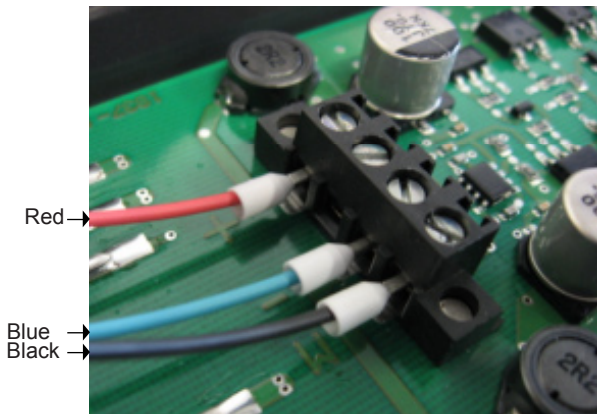
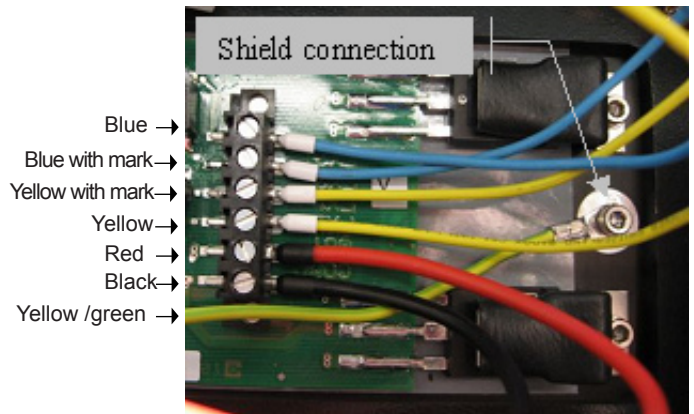

Figure 7: connector X1
Figure 8: connector X2 and shield connection
The heatsink and the measuring head are internally connected to the ground terminal (threaded stud) which is accessible on the heatsink side (see fig. 8); it should be connected to the ITL 4000-S local ground.
- Remove the three leads on connector X1 (fig. 7), the six leads on connector X2 (fig. 8) and the shield connection to the heatsink (fig. 8).
- Connect the new electronics module (colors as in fig. 7 and 8). Mounting torque for the earth connection screw is 0.55 Nm and for the terminal screws (3 and 6 leads) it is 0.5 Nm.